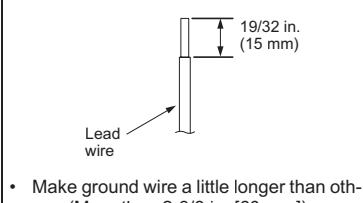

Fig. 3
- Process the end of ground wire (Fig. 3). Connect it to the ground terminal of electrical parts box.
- Process the end of indoor/outdoor unit connecting wire (A) (Fig. 3). Attach it to the terminal block. Be careful not to make mis-wiring. Attach the wire to the terminal block securely so that its core cannot be seen, and no external force affects the connecting section of the terminal block.